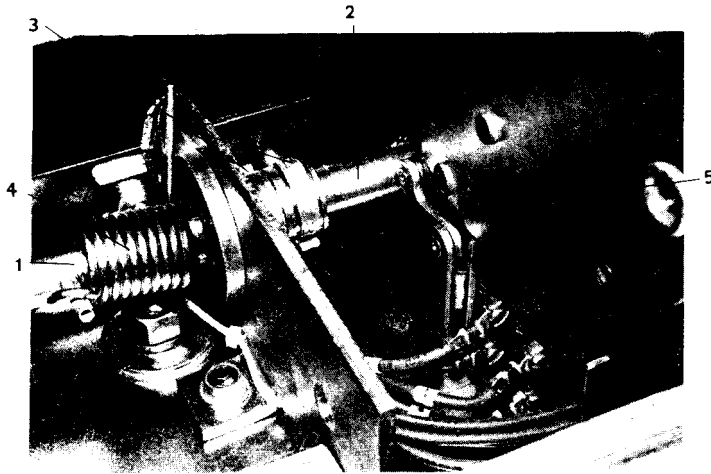

Fig. A16 Close Shaft (Rear) Viewed from below.
The rear frame contains a bearing which supports the rear end of the flywheel. Remove the rear frame carefully so as not to pull the forward end of the flywheel from its support. Cut the clamp, (3) Fig. A16, that retains the pin connecting the front and rear section of the close shaft using end cutting nippers. Observe the position of the closing shaft torsion spring (see Fig. A16) so that it can be installed in the same location.
When reassembling, lift the gearmotor limit switch actuator, (5) Fig. A16, before sliding the flywheel assembly into place. After reassembly perform a complete adjustment of the mechanism as described in section 5, Mechanical Checks and Adjustments, and then operate the breaker electrically several times before returning the breaker to service.